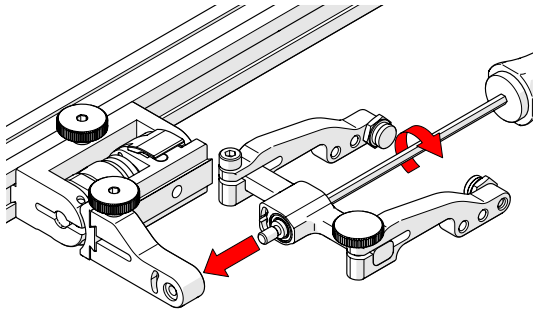

Fig. 217 - Install yoke to swing arm
6. Using the 3 mm hex driver, screw the yoke pivot screw into the opposite side of the probe holder swing arm (Fig. 217). Ensure the yoke is level to avoid issues with the plunger/set screw.